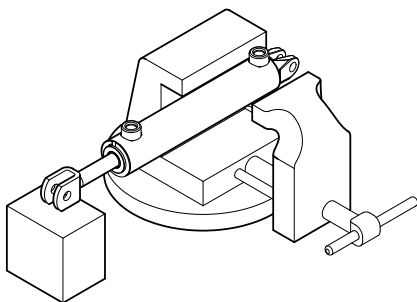

Figure 18, Cylinder vise
2. Clamp the cylinder lightly at the base end using a soft-jawed vise. Use a block or other support under the rod end of the cylinder. (Figure 18)